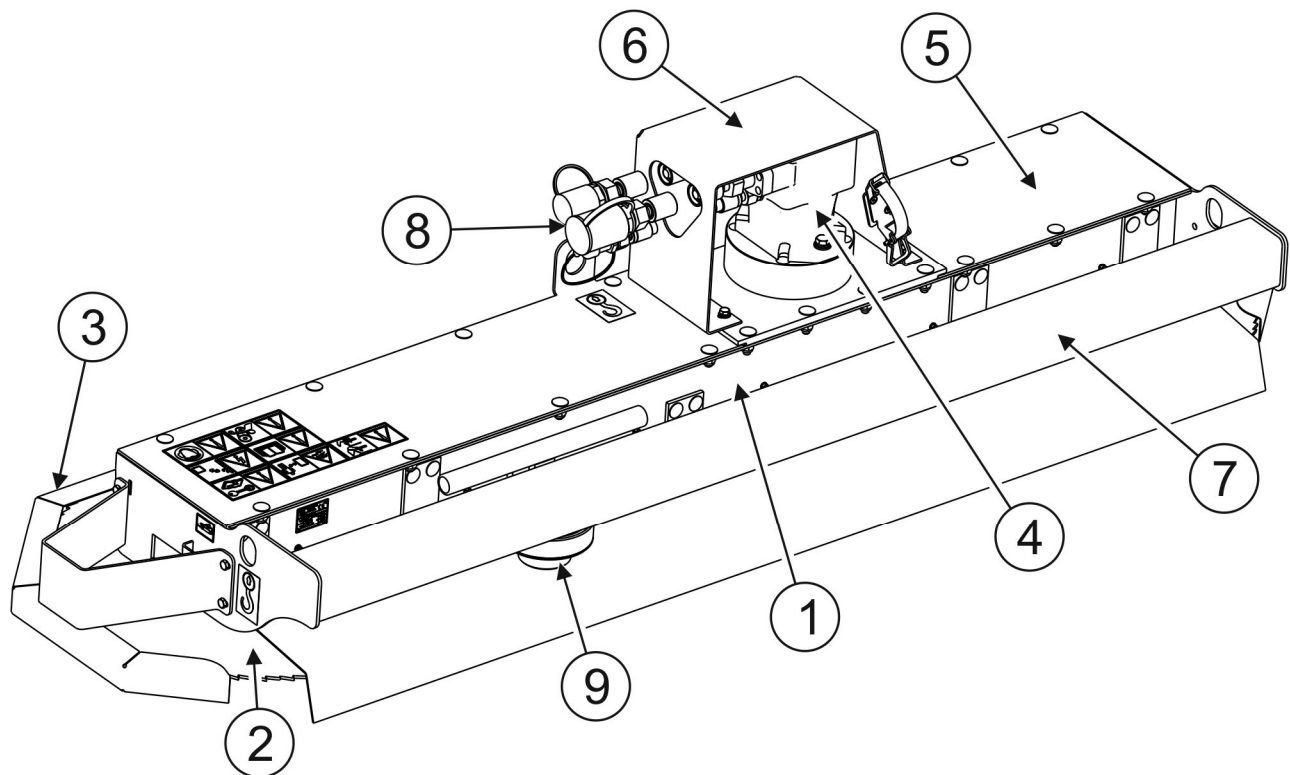

FIGURE 3.2 General design.
(1)- branch cutting saw housing; (2)- circular saw blade; (3)- transport guard; (4)- hydraulic motor; (5)- cover; (6)- hydraulic motor shield; (7)- support beam; (8)- hydraulic conduits; (9)- set of special wrenches.
The branch cutting saw consists of housing (1) (FIGURE 3.2) on which support beam (7) is installed. The beam makes it possible to hitch the branch cutting saw to the WWP600, WWP500, WWP500U or WWP500UH multifunction arm head.